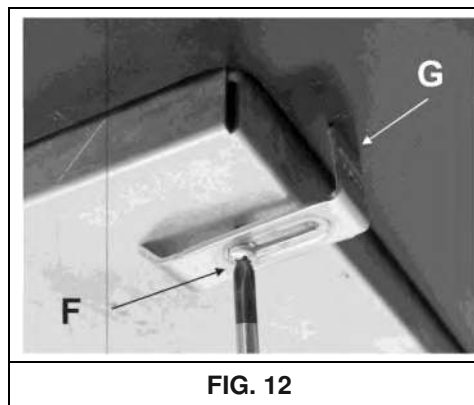

FIG. 12
- Install the cooktop into the opening made in the furniture and secure it with screws "F" using fastening hooks "G" (refer to Fig. 12).